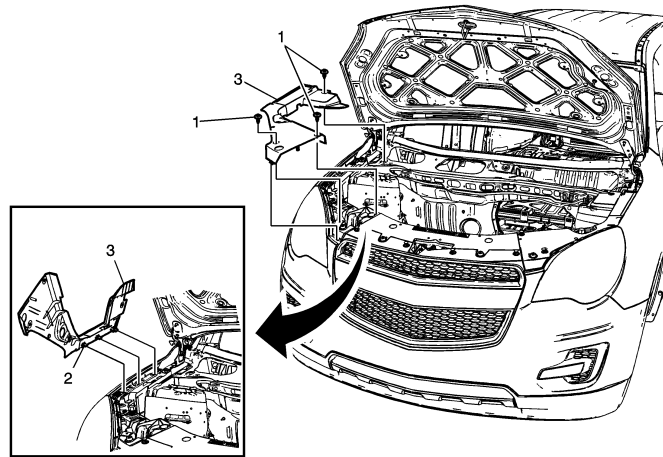

Fig. 4 Front bumper fascia opening cover removal
12. Remove front bumper fascia opening cover, **Fig. 4**.
2. Install front bumper fascia opening cover, **Fig. 4**.